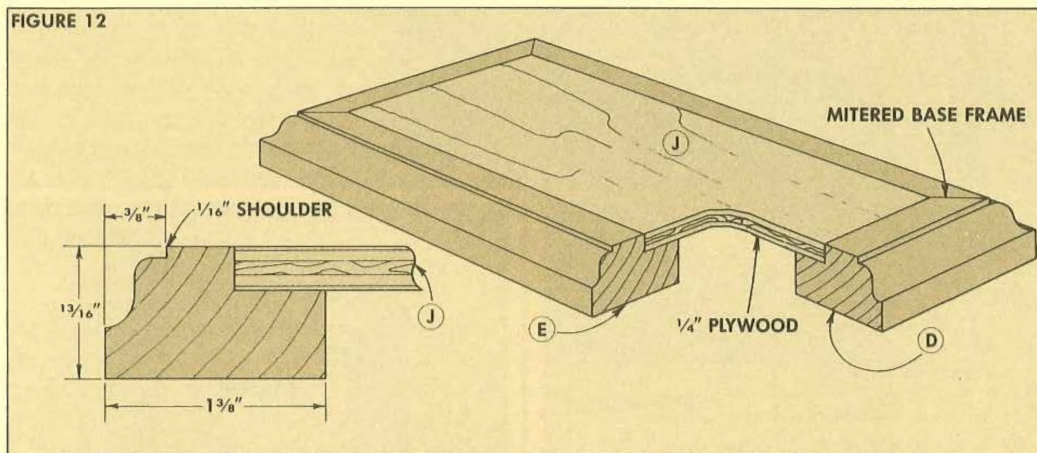

FIGURE 13
To get the length of the end pieces (D), measure the distance from the front molding to the back of the box. Now add $\frac{7}{8}$ " to both of these measurements to provide for the two $\frac{3}{8}$ "-wide ogee cuts, and the two $\frac{1}{16}$ "-wide lips, see Fig. 13.
After the base frame is assembled, it's glued to the main body of the music box. Here, be sure that the box is centered so there's a $\frac{1}{16}$ " spacing between the corner moldings and the edge of the ogee profile on the base, see Fig. 13.